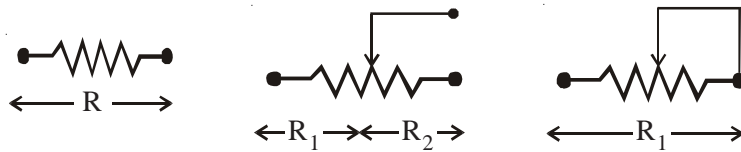

Fig. 1.5 (a) Series Rheostat
2. **Potential Divider** (as shown in Fig.1.5 (b))